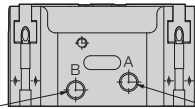

Fig. 3
- Install speed controllers to 2 air supply ports (Fig. 3) with the tightening torque shown below.